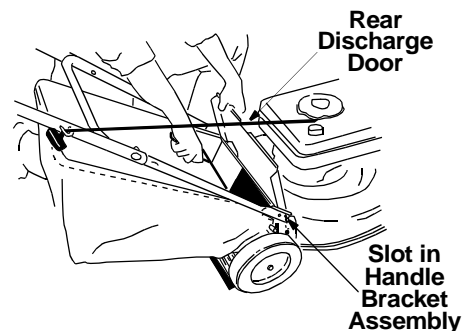

Figure 7
- To remove the mulching baffle, lift the rear discharge door on the mower. Remove the mulching baffle. See Figure 7.
- Place the hooks on the grass catcher into the slots in the handle bracket assemblies. See Figure 7. Release the rear discharge door.
- Lift the rear discharge door and install the mulching baffle. See Figure 7.